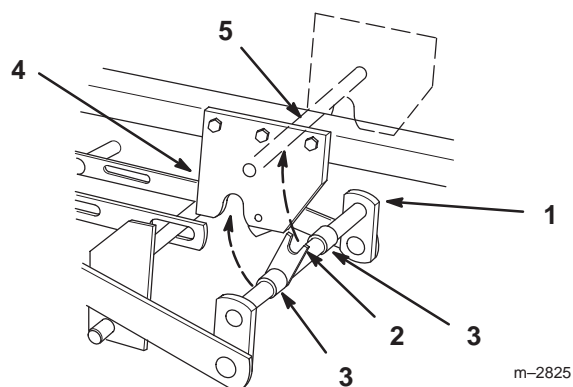

Figure 6
9. Rotate the front mounting shaft so the fork faces straight up and aligned so the spacers are between the mid-mount hitch plates (Fig. 6).
10. Lift the mower with the attachment lift lever or electric lift and guide the fork to capture the hitch rod (Fig. 6).